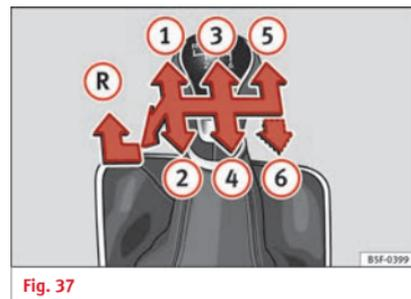

Fig. 37
The position of the gears is indicated on the gearbox lever »» Fig. 37.
- With the gearbox lever in neutral, push it upwards, move it to the left as far as it will go and then forwards to select reverse » **Fig. 37** .